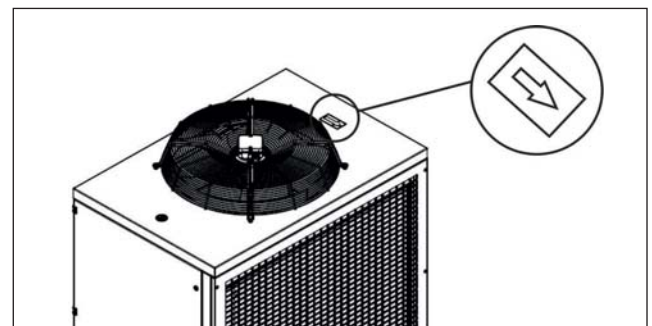

Fig. 10.2
- Rotation direction of the condenser fans. The air flow should be directed from the air intake side towards the fans. The direction of rotation of the fans is indicated on the body of the unit (Fig. 10.2).